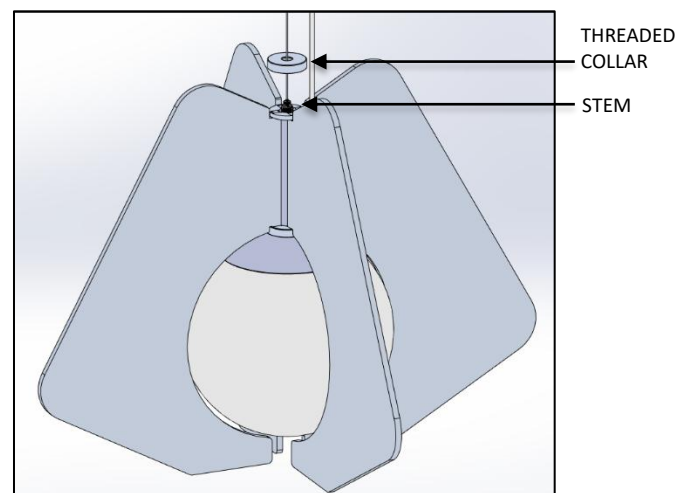

FIG. 41 – ACOUSTIC FIN INSTALLATION
33. With all ACOUSTIC FINS slotted into the lower ACOUSTIC HOLDER, insert the ACOUSTIC FIN tabs into the upper ACOUSTIC HOLDER as shown in FIG. 41. Ensure all fins are properly slotted into place and then screw on THREADED COLLAR onto STEM.